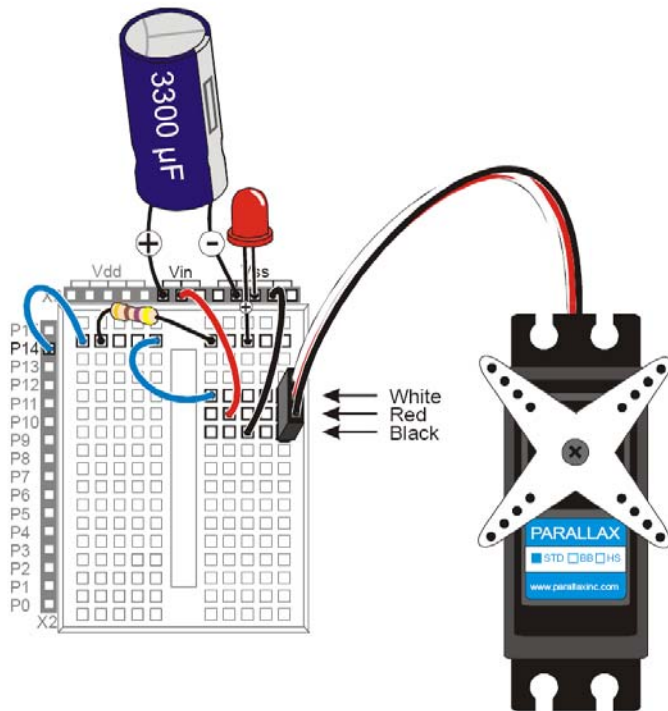

Figure 10
- ✓ Connect the servo to the servo header as shown in Figure 10.